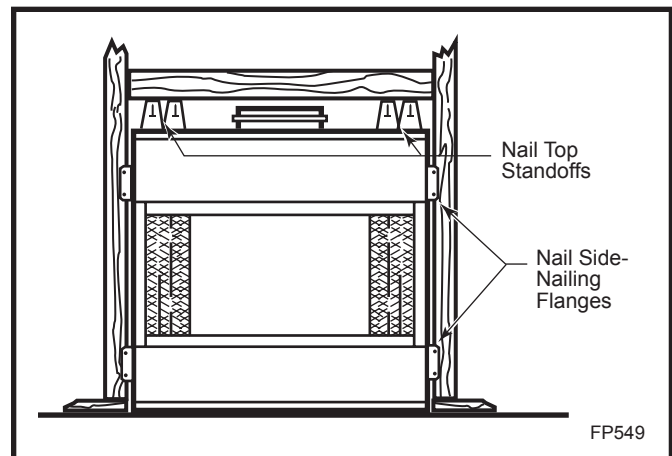

Fig. 14 Fasten fireplace in position.
Four (4) nailing flanges are incorporated on each corner of the surround. Bend the nailing flanges out, level the box, then secure it firmly in place by nailing the flanges to the framing members as shown in Figure 14.